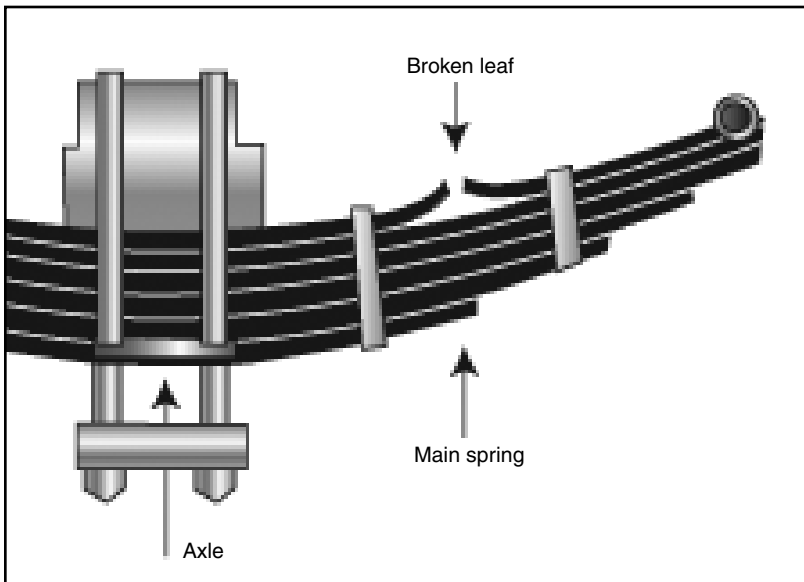

Figure 2.3
- Missing or broken leaves in any leaf spring. If one-fourth or more are missing, it will put the vehicle “out of service”, but any defect could be dangerous. See Figure 2.3.